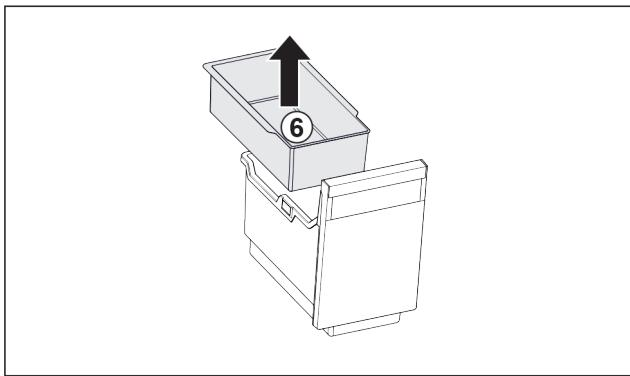

Fig. 95
- Remove the hang-on tray *Fig. 95 (6)*.